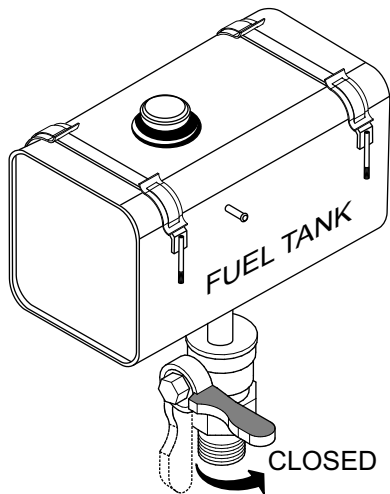

Figure 59. Fuel Valve Lever (Closed)
- Open the cabinet door where the fuel tank is located and place the fuel valve lever (Figure 59) in the **CLOSED** position.